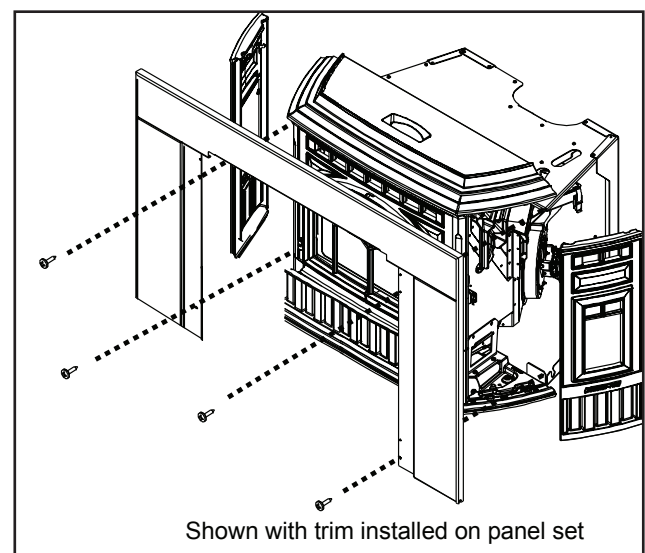

Figure 22.5
9. Carefully slide surround and trim over the top of the insert into place matching the mounting holes on the panel with the mounting holes on the insert. Secure with screws provided. **Figure 22.5.**
4. Carefully slide surround and trim over the top of the insert into place matching the mounting holes on the panel with the mounting holes on the insert. Secure with screws provided. **Figure 22.5.**